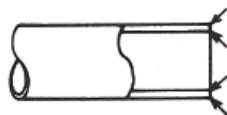

FIGURE 1
The outer diameter of the tubing must be deburred in order to pass through the Self Flare sleeve. Use of the Self Flare fitting absolutely requires that the tube inner diameter must also be deburred. Figure 1 shows properly cut and deburred tube. Caution: Excessive deburring will weaken the tubing wall. Therefore, while deburring is vital, chamfering, cutting, shaving or otherwise affecting the tube's wall thickness must be avoided.
Illustrated below (Fig 1) is the standard tubing, representative of the type used in most conventional applications. This tube and wedge (BA) combination is correct and will allow the tube to be pushed over the wedge and make a satisfactory Self Flare tube joint.